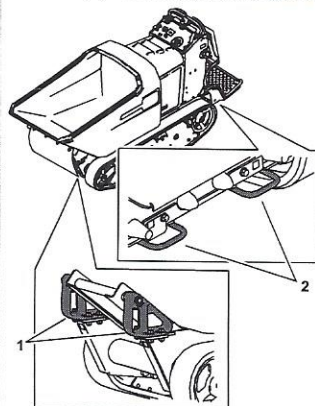

Figure 16
- Use the metal tie-down loops on the machine to securely fasten the machine to the trailer or truck with straps, chains, cable, or ropes (Figure 16).